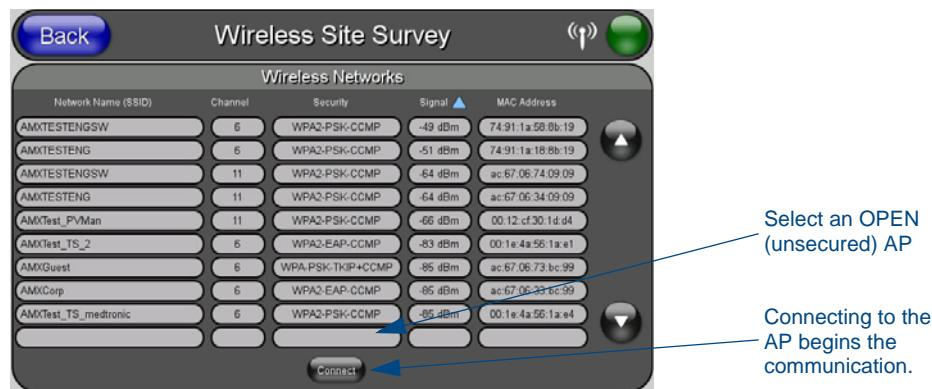

FIG. 22 Site Survey of available APs
- Automatically filling it by pressing the **Site Survey** button. From the *Site Survey* page, choose an **Open** AP from within the *Site Survey* page and then pressing the **Connect** button at the bottom of the page (FIG. 22).